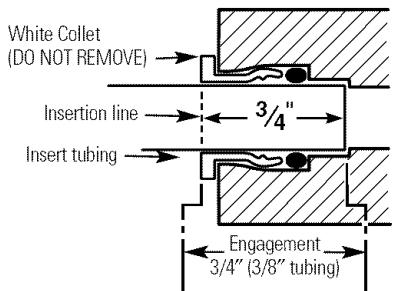

**Fig. 8**
1. Measure 3/4" from the end of each remaining piece of tubing (faucet end and inlet end) and mark with a pencil (Fig. 8). (Check for roundness, smoothness, cuts, nicks, flat spots and sharp edges).